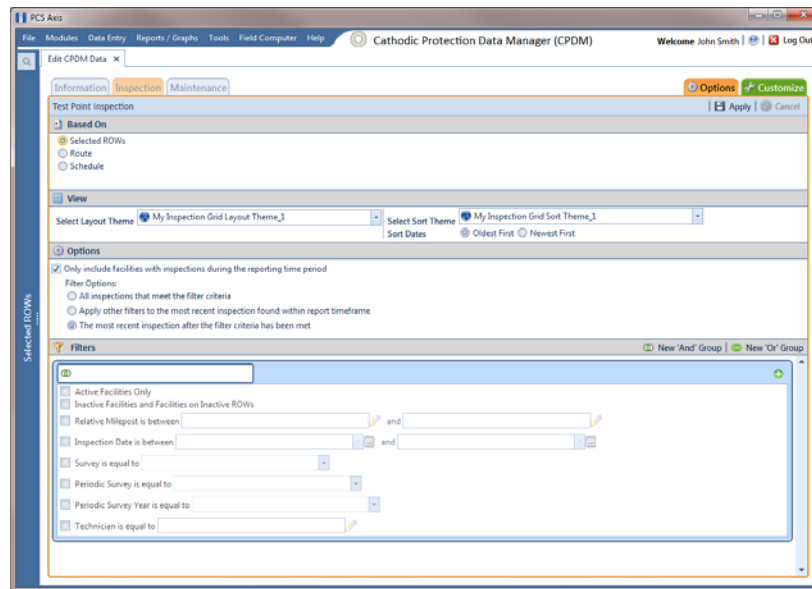

Figure 7-32. Options
- b Click the **Options** tab  to open the options page. Then click the option **Selected ROWs** in the *Based On* group box (Figure 7-32).
- c** To apply a filter to the grid, click the check box for a filter listed in the *Filters* group box (Figure 7-32, page 216).